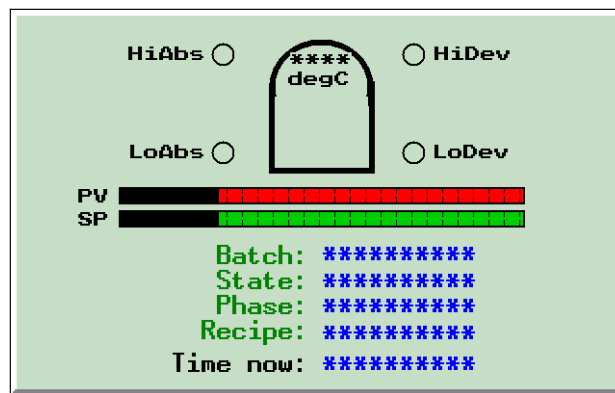

Figure 7-6 The finished 'Mixer Vat' user screen
- 5 Send the still-selected rectangle to the back by clicking the **Move to Back** toolbutton . Your finished user screen should now look something like Figure 7-6.